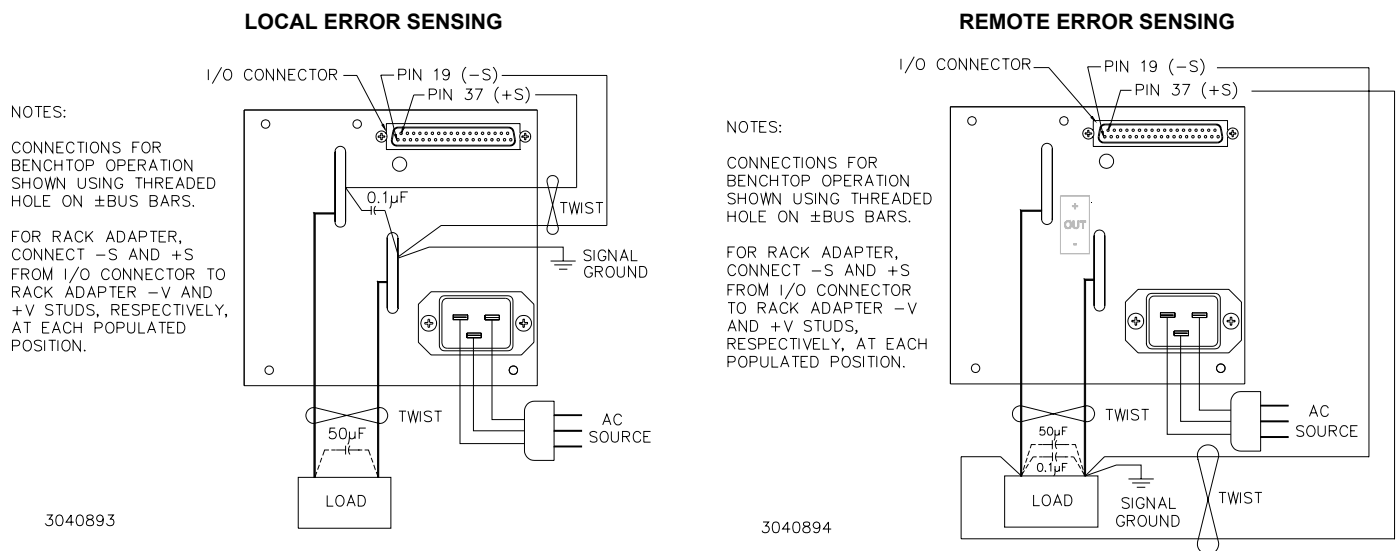

FIGURE 2. LOAD CONNECTIONS
CONNECTIONS: Figure 2 shows proper connection of one or more loads using either remote or local sensing. **If local or remote sensing is not configured, the unit will not work properly.** Observe polarities: negative sensing wire must be connected to negative load wire, and positive sensing wire to positive load wire. When used with plug-in rack adapters, local sense wires must be connected from the I/O connector to the ± studs of the rack adapter.
Load connections to the HSP power supply are via bus bars protruding from the rear panel (see Figure 2) or via the rack adapter output studs.
1. **Power supply will not operate unless remote sense lines are properly connected to output terminals!** Connect remote sense terminals to output bus bars using mating I/O Connector (Kepco P/N 142-0422) or other means as shown in Figure 2.